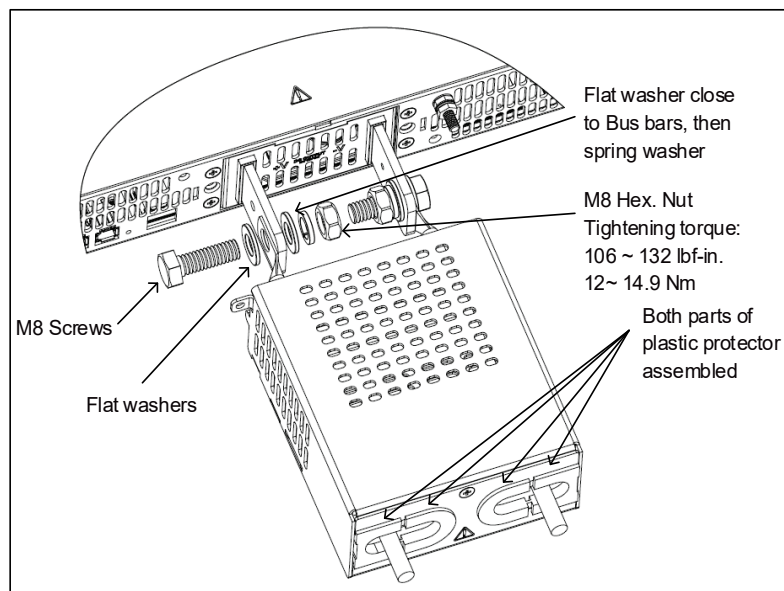

Figure 4-19: Wires assembly
4. The recommended wires according to Table 4-2 can be inserted through the output protection assembly. No need to open the output protection assembly. Refer to Figure 4-19: